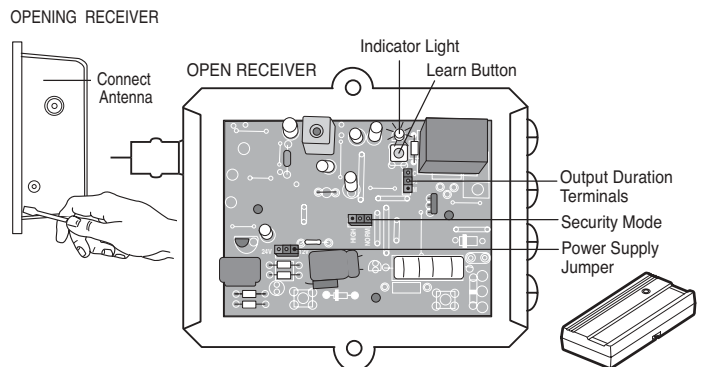

Figure 3
1. Pry open the front panel of receiver case with a coin or a screwdriver. Re-connect power to opener (Figure 3).